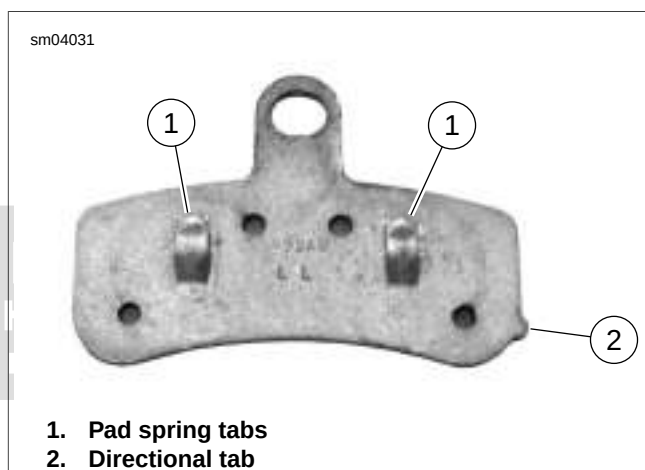

Figure 1-36. Front Brake Pad
See Figure 1-36. Ensure the pad spring tabs (1) on brake pad engage the pad springs in the pistons.